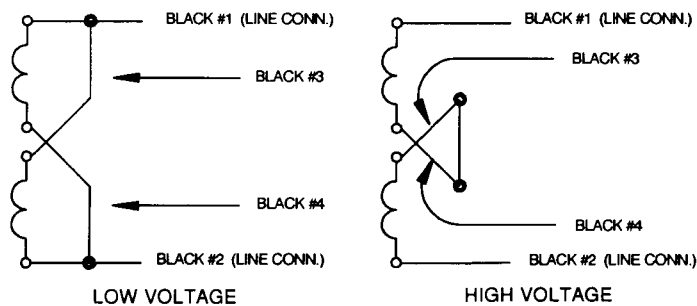

FIGURE 92
4. Reconnect the trolley drive motor brake leads inside the motor junction box. Refer to Table 16 and Figure 92. Refer to the TROLLEY DRIVE BRAKE section of this manual for additional crane drive brake information.
230 VAC	Figure 92, Low voltage
380 VAC	Figure 92, High voltage
480 VAC	Figure 92, High voltage